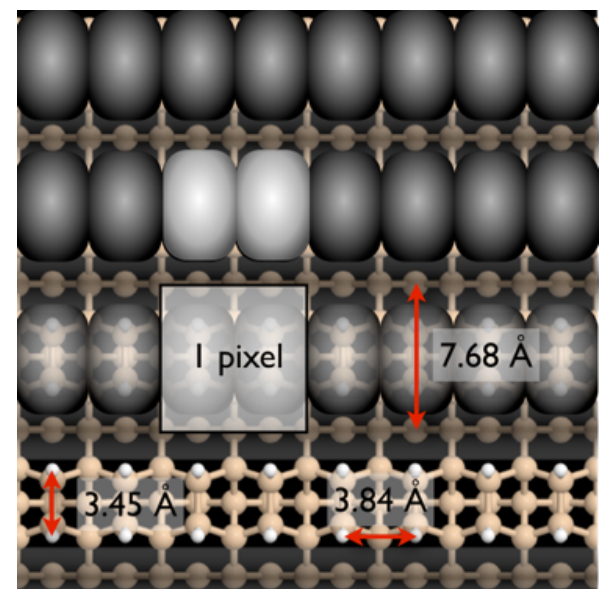

Figure 1.1: Schematic of the Si(001):H surface, showing the 2-dimer pixel used as a basis for digital lithography in ZyVector.
- The lateral quantization is used in ZyVector to form sub-nm pixels. Each pixel is formed of two dimers on a single dimer row, as shown in Figure 1.1. The pixel size is 0.768 nm. Sub-px lithography is also possible, down to single-atom removal.